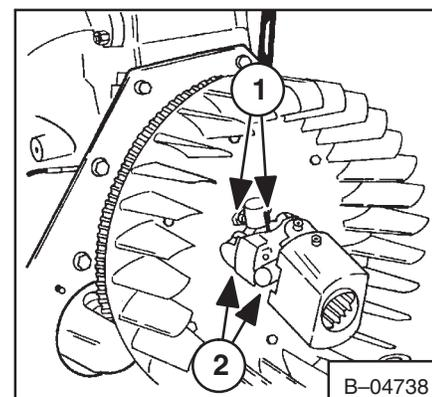

Fig. 7B–59 U–Joint
1. Remove the bolts that attach the blower fan to the flywheel (Fig. 7B–59, Item 2).